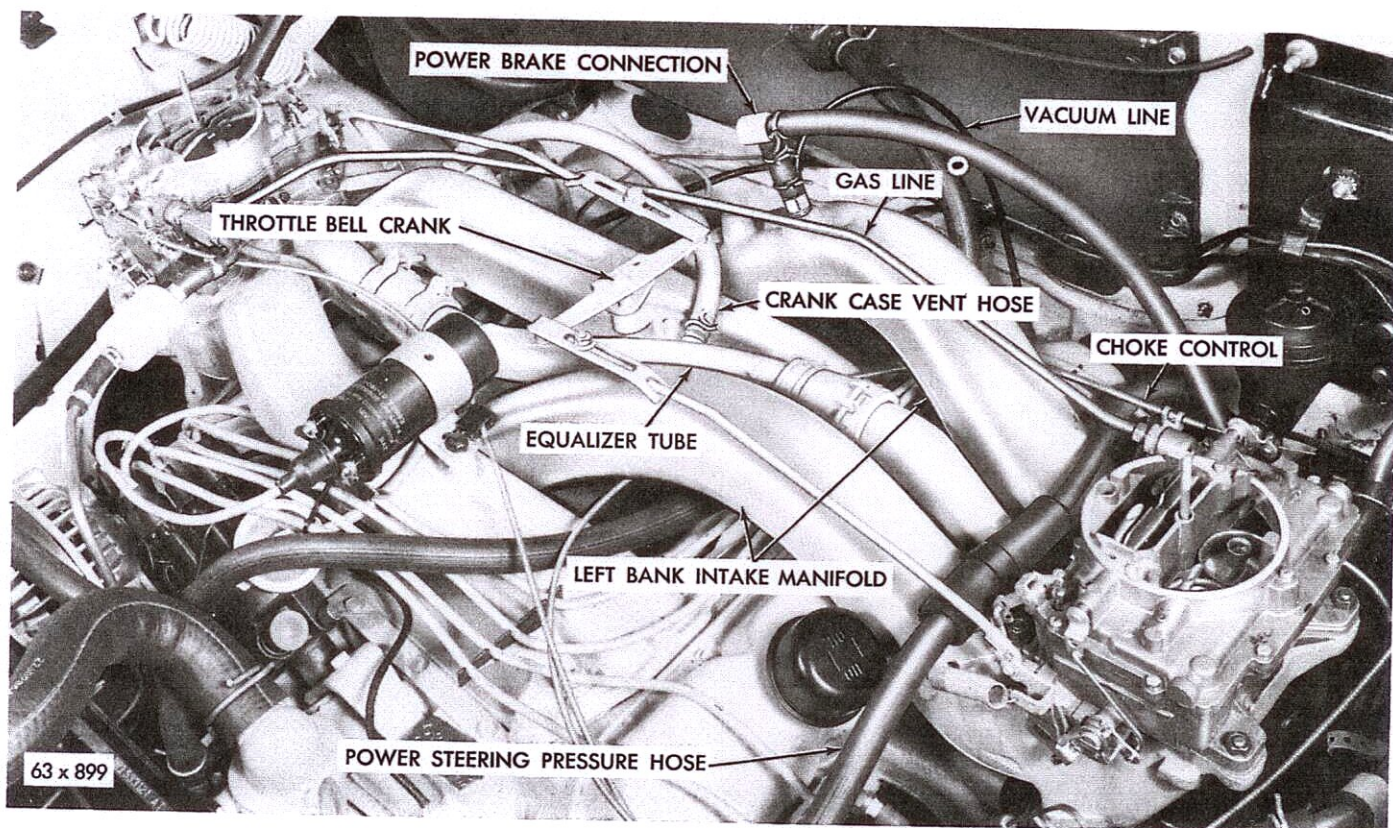

Fig. 15 - Fuel Induction Intake Manifolds
(16) Remove the left air cleaner.
(17) Disconnect the hose at the crankcase vent (Fig. 15).
(18) Disconnect the throttle linkage at the throttle bell crank.
(19) Disconnect and remove the equalizer tube at the right hand intake manifold.
(20) Disconnect and remove the gas line from both carburetors.
(21) Disconnect the manual choke control from the left hand carburetor.